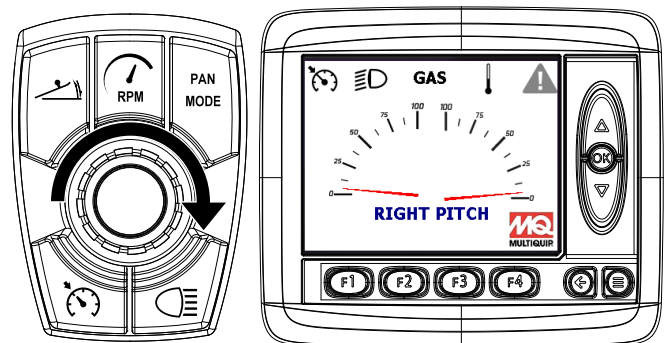

Figure 40. Blade Pitch Selection
- Turn the **control knob** until the desired blade pitch is displayed (Figure 40).